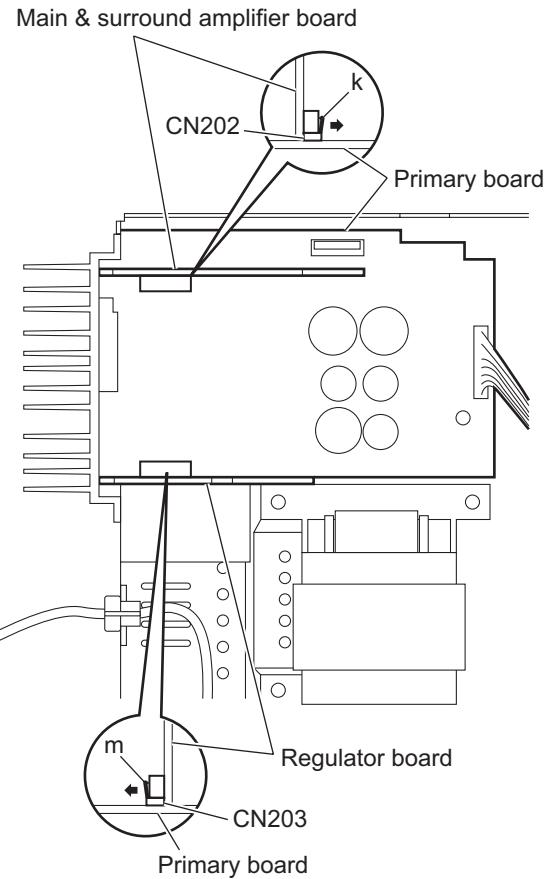

Fig.19
(See Figs.19 and 20)
- (1) From the top side of the main body, disconnect the regulator and main & surround amplifier boards in an upward direction while releasing the locks (**k**, **m**) of the connectors (CN202, CN203) on the primary board. (See Fig.19.)
When releasing the locks (**k**, **m**), take care not to break them. (See Fig.19.)